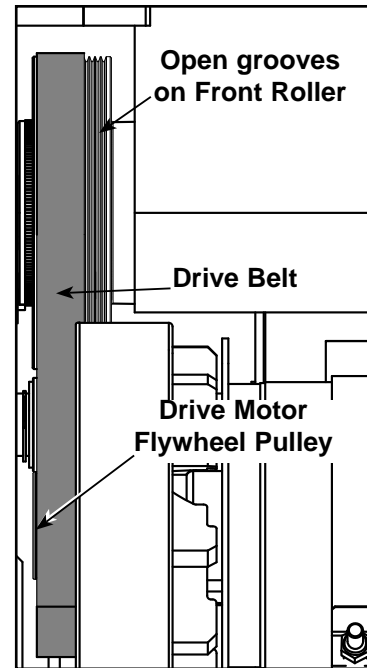

Figure 11
- D. Confirm that the drive belt fills all grooves in the drive motor flywheel pulley and there are open grooves on the inside of the front roller. See Figure 11. **NOTE:** Failure to align the drive belt could cause squeaking.